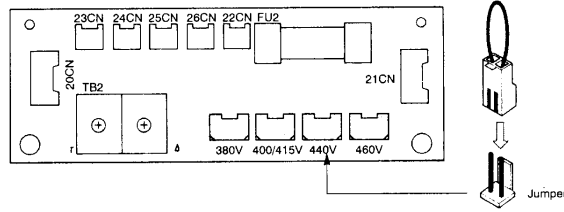

Figure 5.1 Setting the Power Supply Voltage
3. Insert the jumper at the position for the voltage supplied to the Inverter (see *Figure 5.1*).